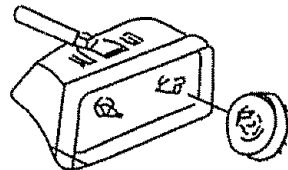

FIG. 12
1. Lay the polisher flat exposing the underside of the unit (Fig. 12). Using a rotating motion push the brush on the spindle as far as it will go.